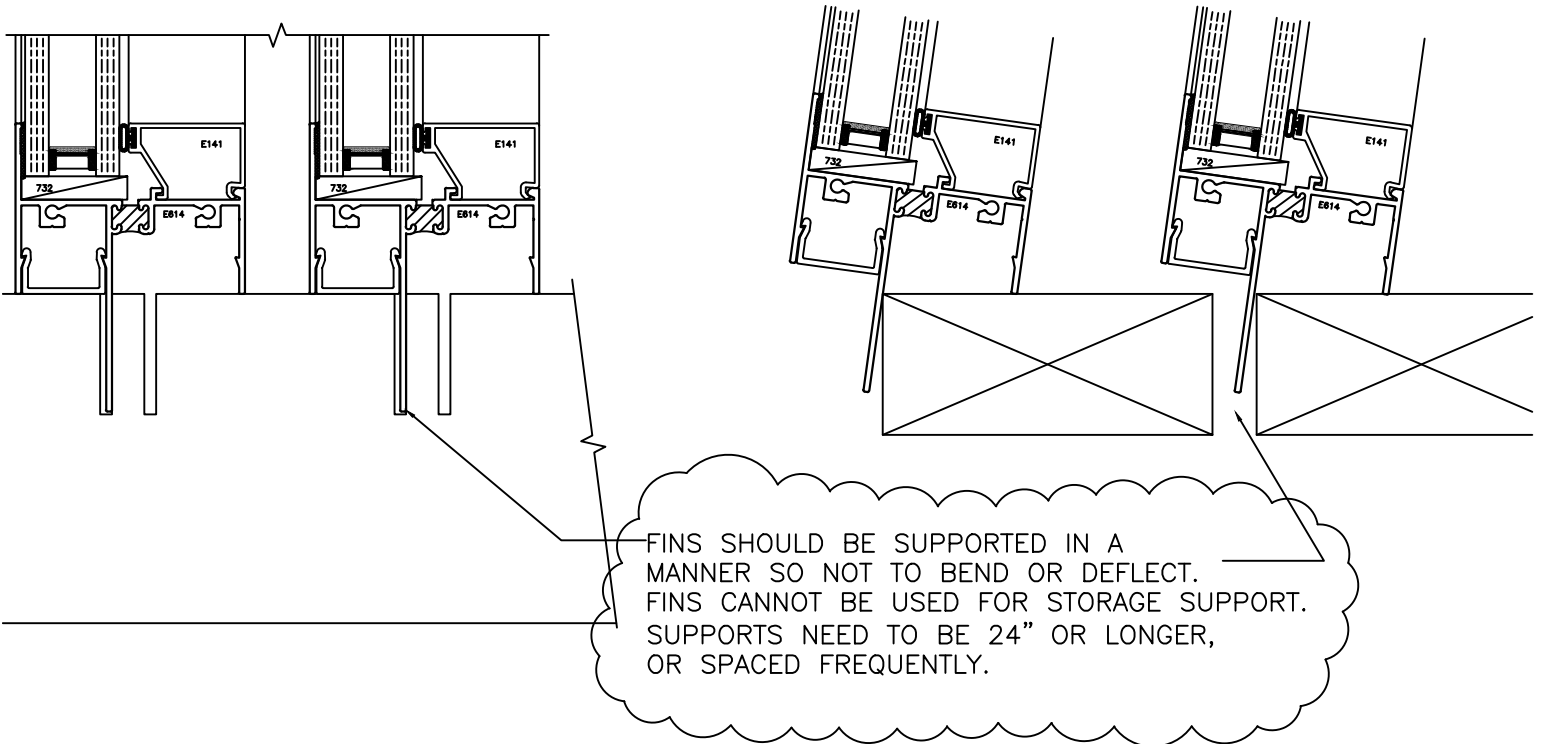

FIGURE 4
4. Store the windows off the ground (i.e., pallets, planks, etc.) using the 2x4 wood planks with fin reveals off the truck (Packing materials fig 4).